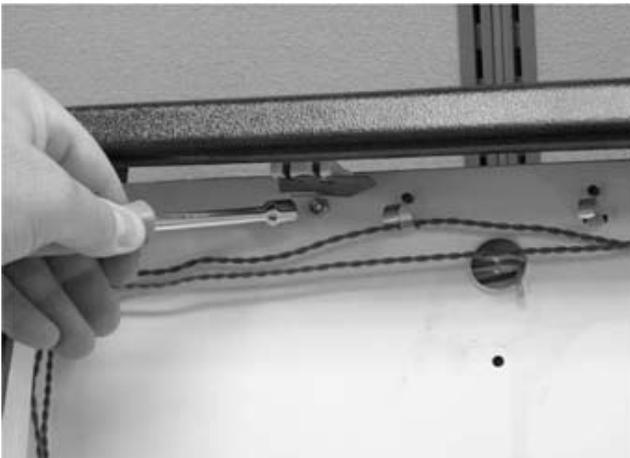
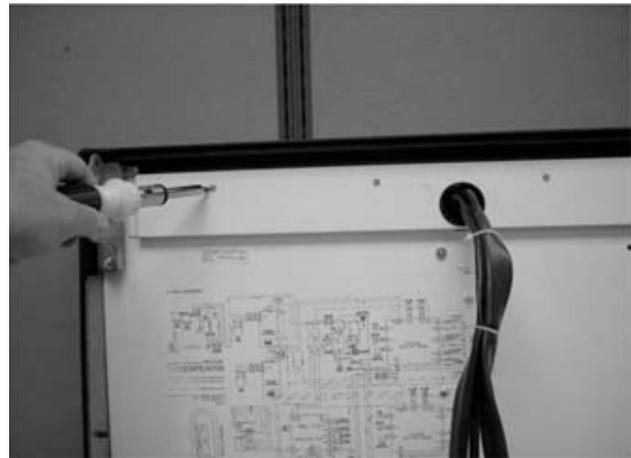

Figure 29.
Figure 30. Back of Merchandiser
- B. Remove 4 screws holding sockets, as shown in Figure 29 (FRONT) and Figure 30(BACK).